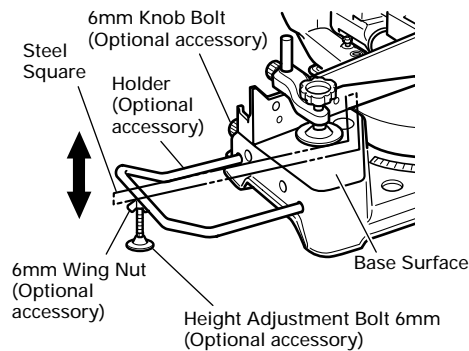

Fig. 13
(1) As indicated in Fig. 13, use a steel square for aligning the upper edge of the holders with the base surface. Loosen the 6mm wing nut. Turn a height adjustment bolt 6mm, and adjust the height of the holder.
(2) After adjustment, firmly tighten the wing nut and fasten the holder with the 6mm knob bolt (optional accessory). If the length of Height Adjustment Bolt 6mm is insufficient, spread a thin plate beneath. Make sure the end of Height Adjustment Bolt 6mm does not protrude from the holder.